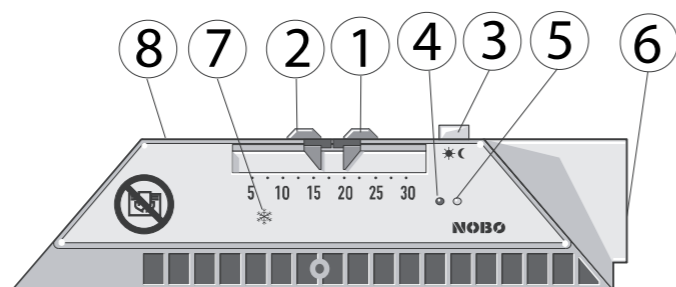

Fig. 1 / Abb. 1 / Kuva 1
2. CONTROL PANEL (fig. 1)
Set the desired temperature levels for comfort and economy periods. Use override button, fig.1 (3) to switch the heater to economy function when the central unit is programmed to comfort, and vice versa. If the function unit is used without being programmed on a central unit, the override button will just toggle between economy mode and comfort mode. Light diode (4) alternates between red and green depending on whether the heater has received a comfort or an economy signal from the central unit or override button.
2. BEDIENFELD (Bild 1)
2. PANNEAU DE COMMANDE (fig. 1)